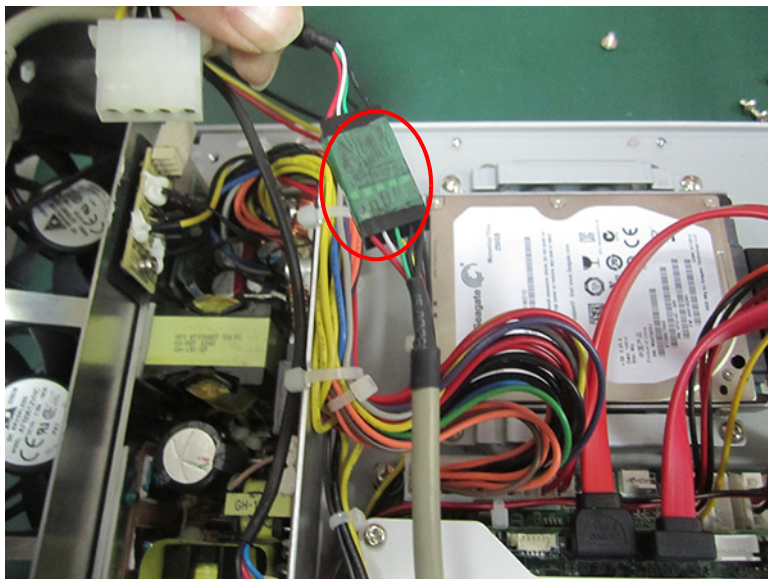

Figure 2.36
6. Connect the USB cable. (See Fig 2.36)